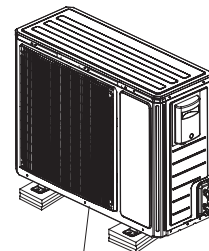

Fig.16
- 3.The outdoor unit should be installed at least 3cm above the floor in order to install drain joint.(As show in Fig.16)